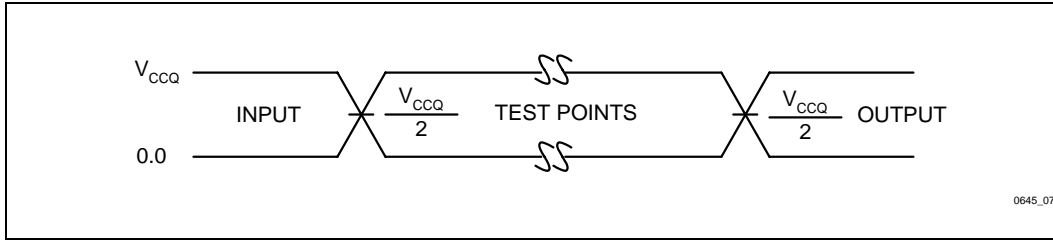

Figure 6. Input/Output Reference Waveform
4. See Figure 6, Input/Output Reference Waveform for timing measurements and maximum allowable input slew rate.
4. See Figure 6, *Input/Output Reference Waveform* for timing measurements and maximum allowable input slew rate.
- See Figure 6, *Input/Output Reference Waveform* for timing measurements and maximum allowable input slew rate.